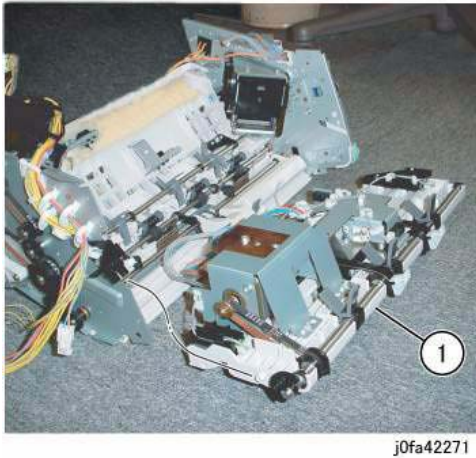

Figure 7 Removing the Compiler Assembly
15. Remove the Compiler Assembly (Figure 7):